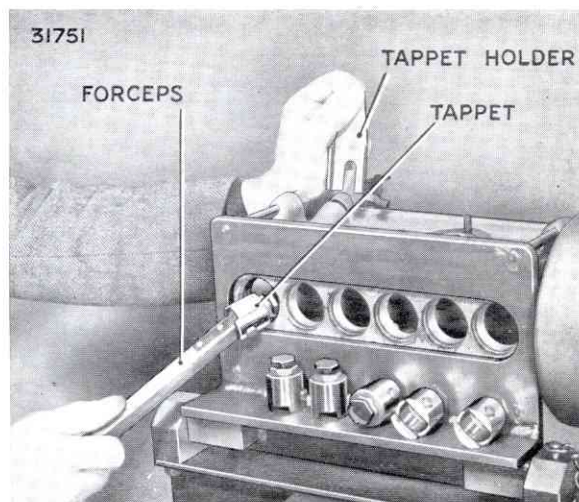

FIG. 69. REMOVING TAPPET ASSEMBLY
8. Push up the tappet assembly until it is possible to withdraw the tappet holder, after which the tappet assembly, lower spring plate, plunger spring, upper spring plate and plunger can be withdrawn through the base (Fig. 69).